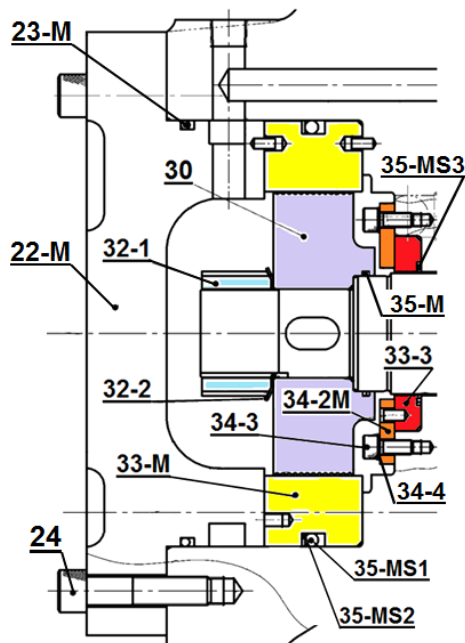

Figure 5-9 GH250S/L Balance Piston (M) Part
1. Attach special tools to the balance piston (M) with referring to Figure 5-9.
2. Screw hexagon head bolt (x-10) and pull out the balance piston (M) from the Male Rotor .
3. In the same way, pull out the balance piston sleeve (M) [33-M] from the bearing cover.